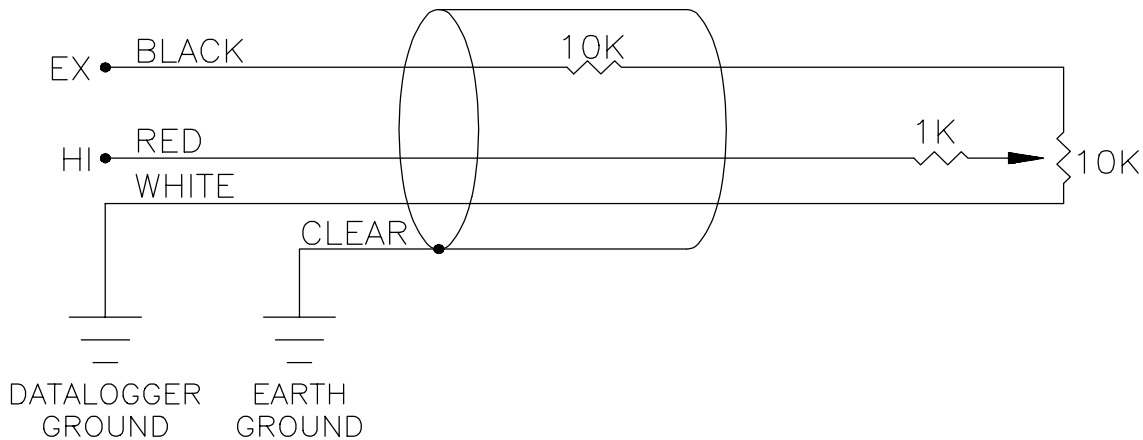
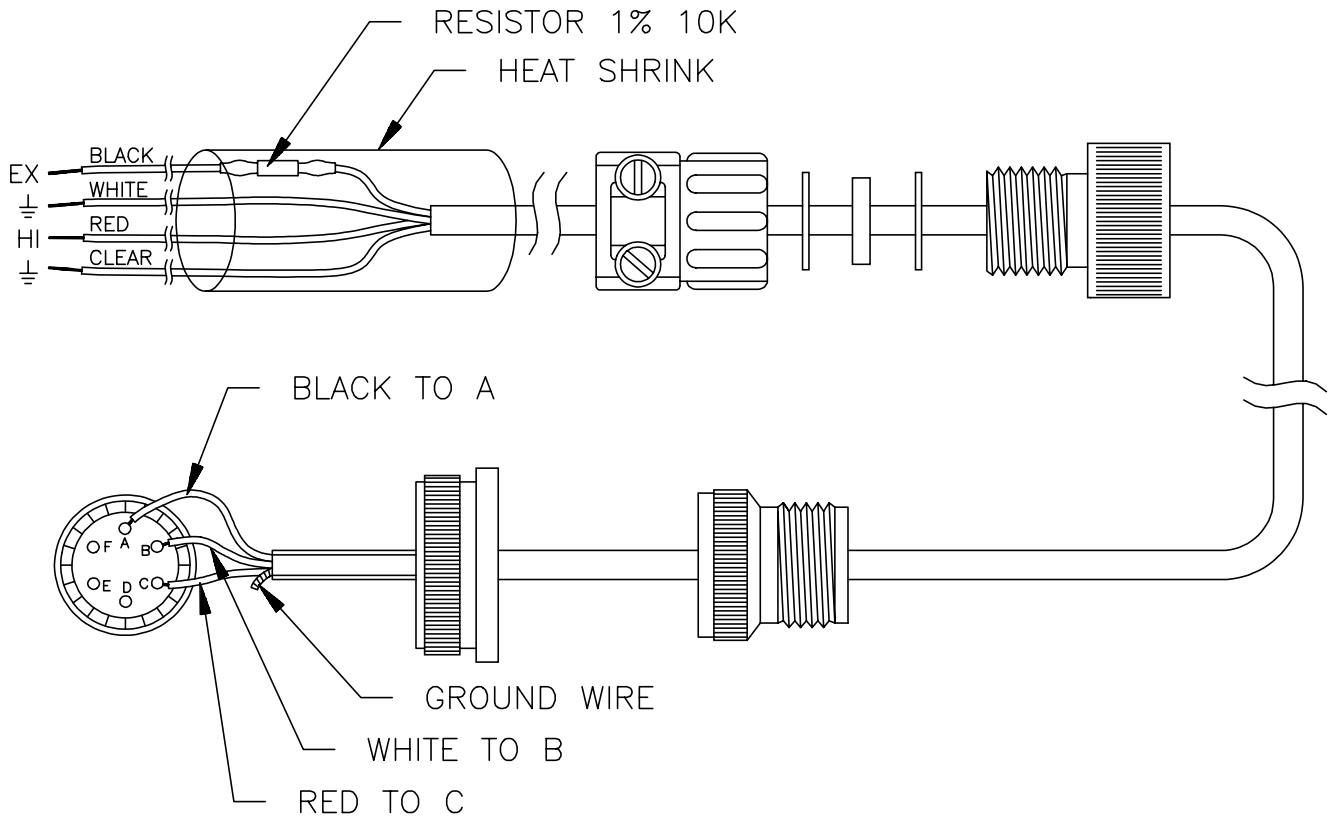

FIGURE 2. Schematic of 024A Wind Direction Sensor
FIGURE 3. Cable Diagram
The black (EX) lead connects to any excitation port. The red (HI) lead connects to any single-ended analog input channel. The white (ground) lead connects to Ground (G) on the 21X or CR7, or Analog Ground (AG) on the CR10. The clear lead is the shield which connects to a ground terminal (G) on the 21X and CR7, or power ground (G) on the CR10. A schematic of the 024A is shown in Figure 2. A cable diagram is shown in Figure 3.